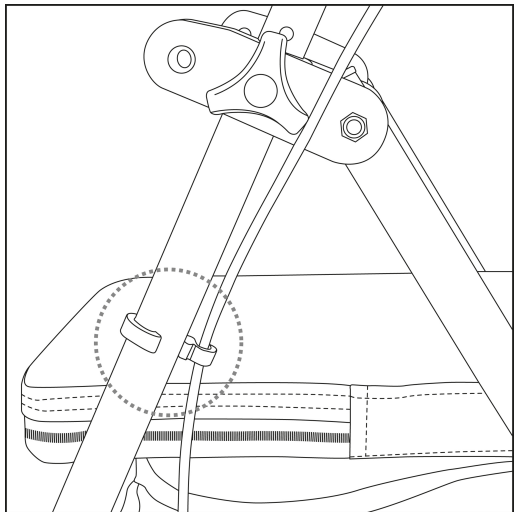

Fig. 7
- Fix the brake cables into the integral brake cable "U" clip welded onto the frame if not already assembled (Fig 7).